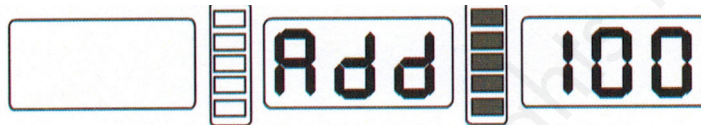

Fig. 9-2
3. After axis stop, ect figure 9-2,(open protect hood)clip a 100 gram counterweight on anywhere of outside of rim, (lay down protect hood)press START key, going to next step, press STOP key or C key to exit.